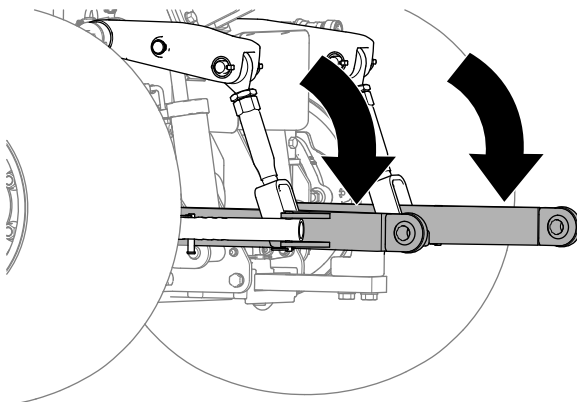

Figure 14
1. Lower the lower-link arms of the traction unit (Figure 14).